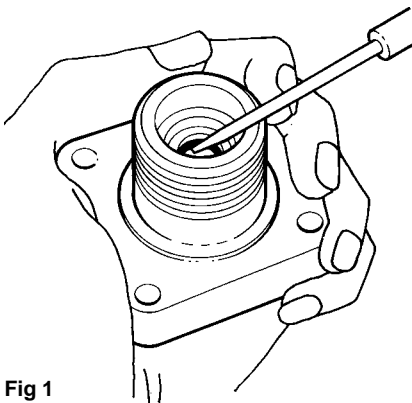

Fig 1
3. Prise 'O' ring from groove with penknife blade or small screwdriver (Fig. 1).
5. Prise 'O' ring from groove with penknife blade or small screwdriver (Fig. 1).